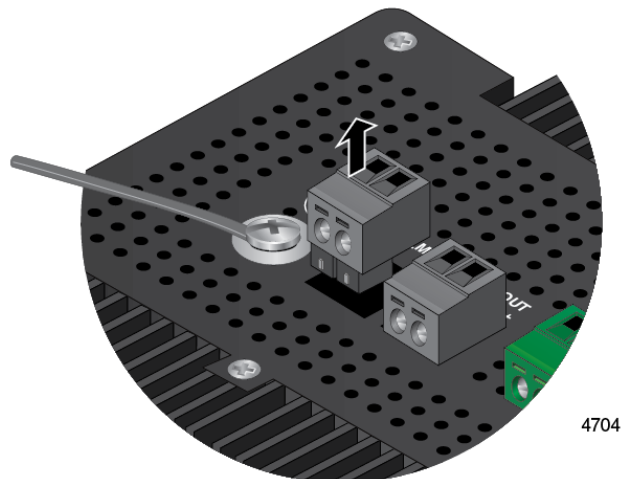

Figure 41. Removing an Alarm Connector
3. Remove the alarm connector from the top panel. Figure 41 shows the removal of the ALM OUT connector.